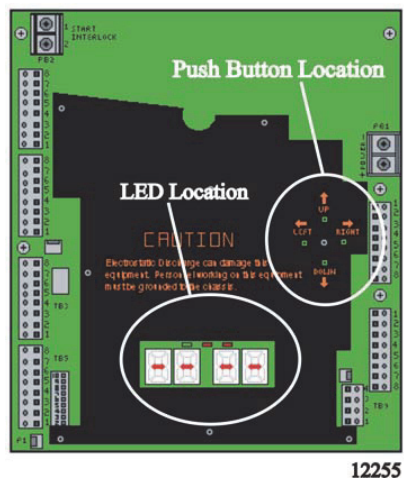

Figure 5-2: Processor Shield Push Button and Display LED Locations
- The Processor enclosure cover must be removed to access the Push Buttons as shown in Figure 5-2: Processor Shield Push Button and Display LED Locations